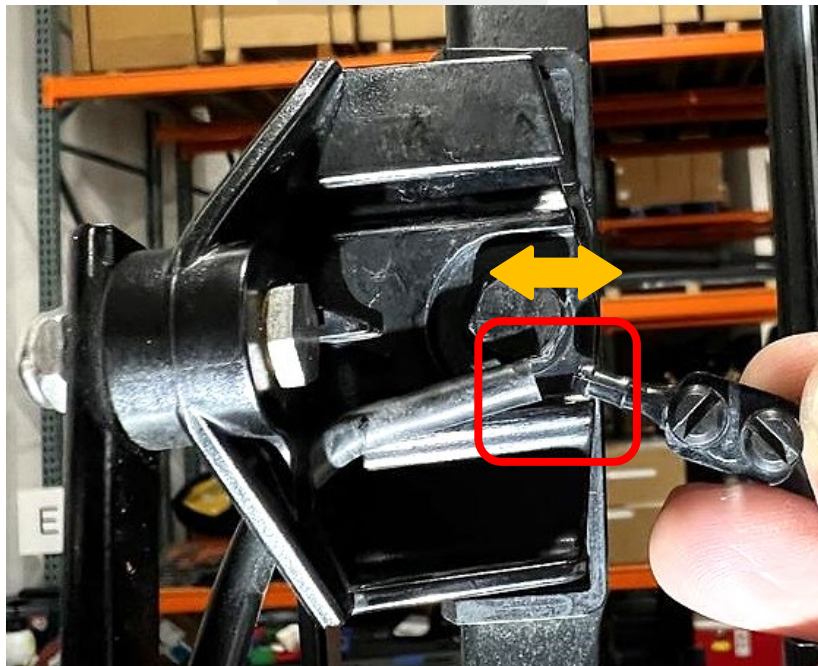

Figure 9
- b. Disconnect the windshield washer nozzle hose from the washer nozzle (Figure 9).